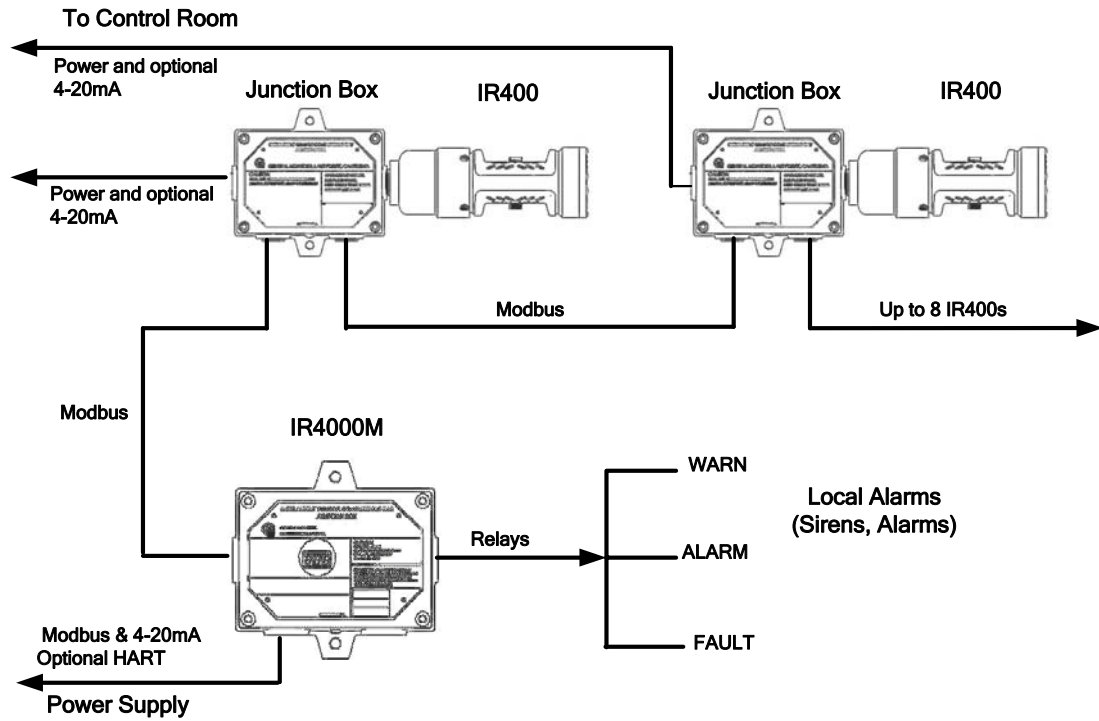

Figure 5: Sample IR4000M Installation
- **IR4000M Monitor System.** One to eight IR400 detectors can be attached to junction boxes and cabled to an IR4000M using the Modbus interface (see Figure 5). Analog, Modbus Channel 2, and power supply signals are forwarded from the IR400 detectors to the control room. (If the detectors are close to the IR4000M and its power supply, some can be connected to power and ground via the IR4000M.)